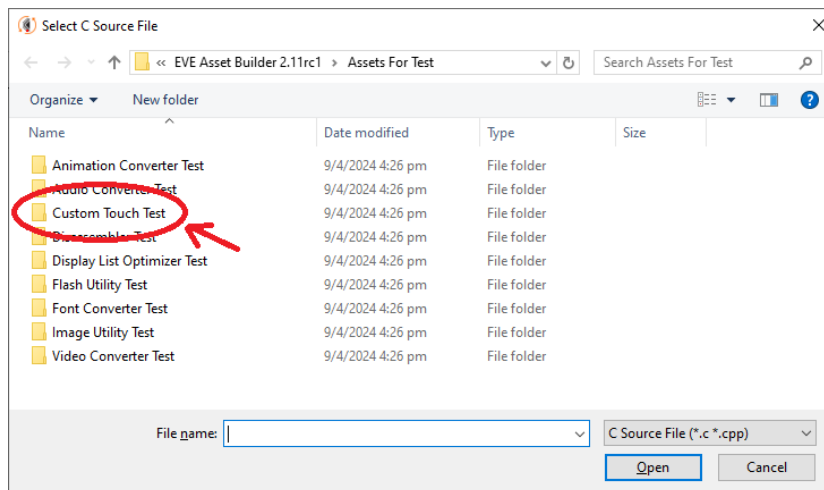

Figure 5 – EVE Asset Builder – Select C Source File
3. A Pop-up menu appears to select the desired source file. The user can either navigate to the desired folder where the user’s C source file is located or navigate to the “Custom Touch Test” where the sample files are located as shown in Figure 5.